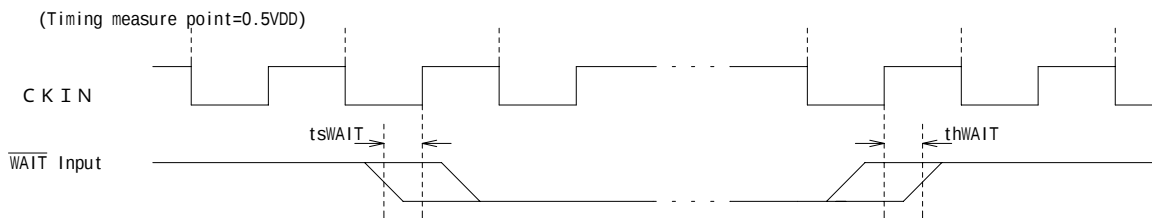

Figure14 The Load Used in Measuring the Timing
with the load in Figure 14**
12. Bus timing / Ta = -20 to 70°C, VSS = 0V, VDD = 3.0 to 3.6V, with the load in Figure14
13. DRAM timing / Ta = -20 to 70°C, VSS = 0V, VDD = 3.0 to 3.6V, with the load in Figure 14